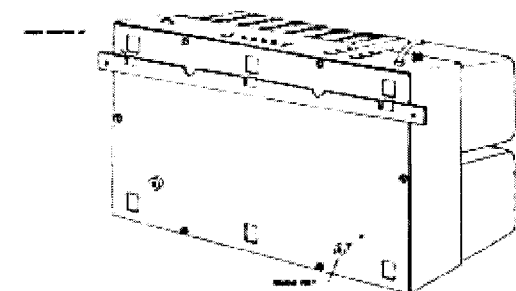

Fig. 6 — Affixing Mounting Brackets
**MOUNTING**—The A30 may be mounted in any position. The amplifier is supplied with rubber feet to prevent marring of the surface on which it is placed. For mounting in a vertical position or for fixed upright mounting (See Fig. 6 "Affixing Mounting Brackets") remove these feet by extracting the screws located in the center of each rubber foot. Install one mounting bracket in the desired location on supporting wall or surface with the hooks pointing up. Install the second mounting bracket on the lower end of the bottom plate with the hooks facing down. Place the amplifier so that the hooks on mounted bracket engage the three cutouts on the bottom plate nearest the top and fasten the second mounting bracket to the supporting wall or surface. Reasonable ventilation is required, and the unit should not be operated in small, completely enclosed spaces. Brackets may also be used for permanent horizontal mounting. Under unusual conditions of very restricted ventilation, the tube and component cover may be removed to assist cooling.